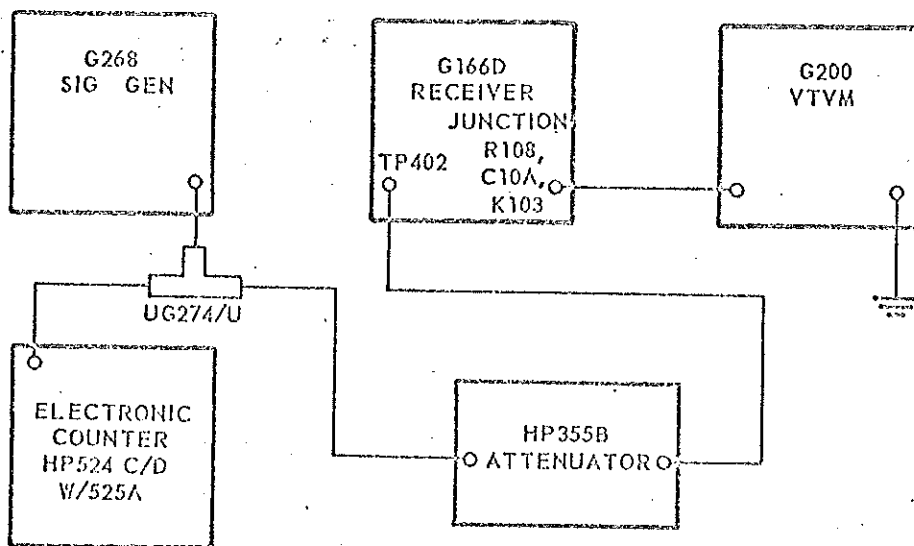

Figure 5-9
- c. Connect test equipment as shown in figure 5-9, with VTVM DC lead to junction of C104, R108, and K103 and ground lead to receiver chassis.
- c. Connect test equipment as shown in figure 5-9 with VTVM DC lead to junction of R102 and R105.